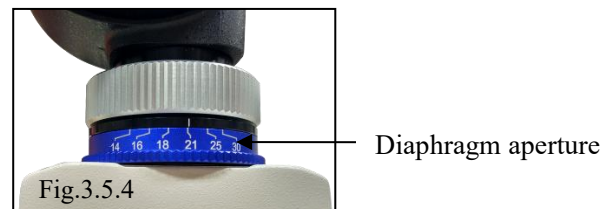

Fig.3.5.4
3. The number above the apertures: F14, F16, F18, F21, F25, F30 indicate the aperture size. The larger the number, the smaller the aperture. When the light is insufficient, a large aperture is required to ensure the brightness of the picture, apply to the condition such as observing the cornea with slit light. Use a small aperture for greater depth of field when there is plenty of light, apply to the condition such as use a large spot to observe the eye (see Figure 3.5.4).